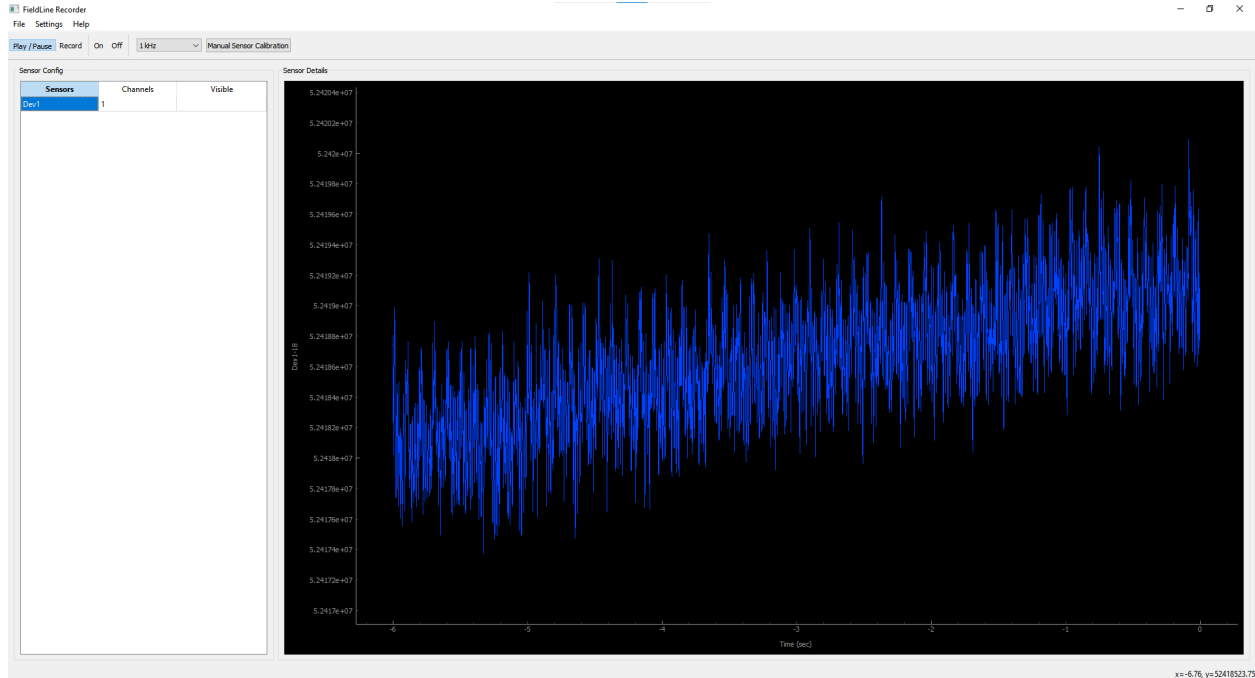

Figure 2 - Magnetometer Signal Present
7. After hitting okay, the connected GUI will show as seen in Figure 2.